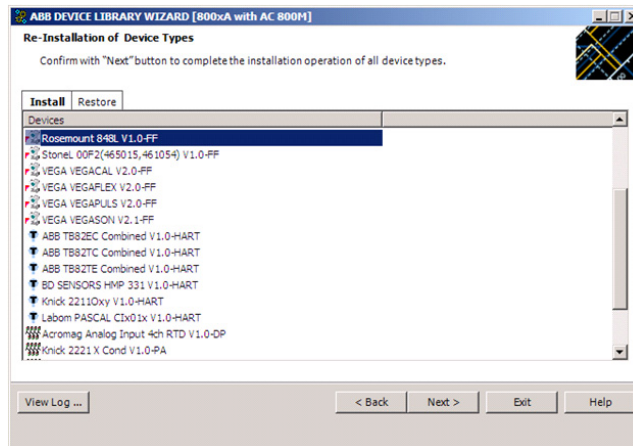

Figure 11. Re-install Device Types Dialog Box
- When the extraction process is completed successfully, the Device Types need to be re-installed on the 800xA System node. Click **Next** to launch the Re-installation of Device Types dialog box shown in Figure 11.